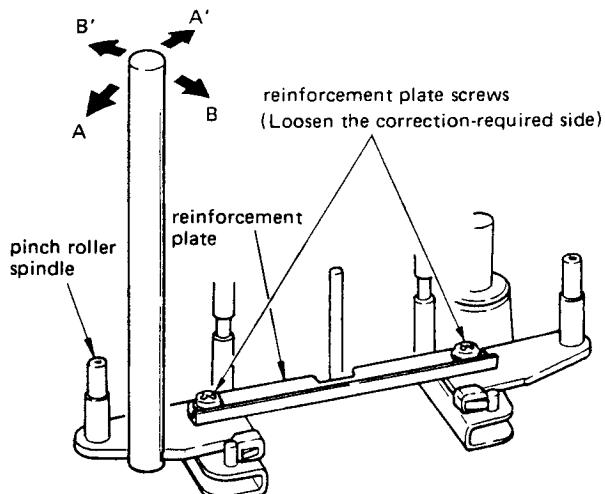

Fig. 2-18 Pinch roller/capstan alignment
4. If a change is found, re-adjust accurately tilt of pinch roller spindle by method illustrated in Fig. 2-18.